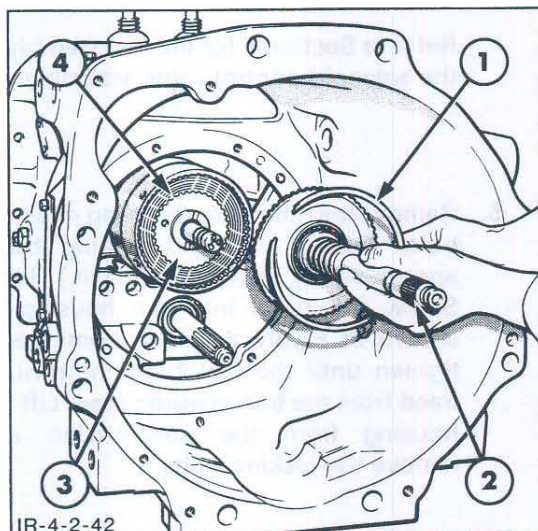

Figure 42
1. Remove the front input shaft and bearing assembly from the clutch housing by removing the snap ring, Figure 42.
2. Pull the forward clutch hub, along with the thrust washer, from the rear input shaft, Figure 42, then remove the forward clutch plates.
4. Place the clutch hub and thrust washer, Figure 42, on the rear input shaft, then install the ten clutch plates, one by one, starting with a steel plate then a bronze plate.
5. Coat the sealing rings on the front of the rear input shaft with petroleum jelly to hold them in position. Then, carefully install the front input shaft, Figure 42. Secure the shaft to the clutch housing with the snap ring.
IMPORTANT: Do not force the front input shaft over the rear input shaft, Figure 42. If difficulty is encountered, one of the sealing rings could have dropped out of position. If necessary, remove the front input shaft and reposition the sealing rings.